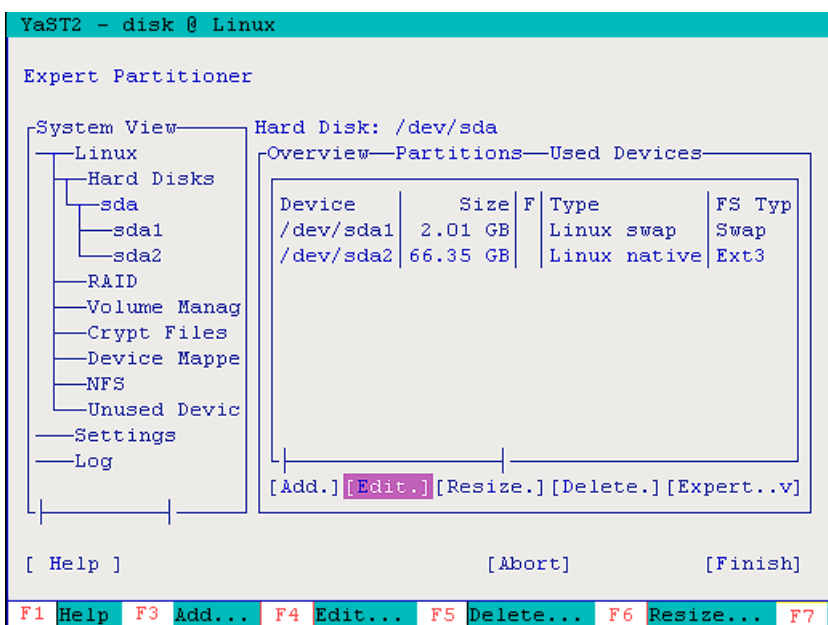

Figure 20-3
- b. Press Enter on **Hard Disks** → Select a partition → **Edit** as shown in Figure 20-3. It is necessary to repeat this step and the next step on every partition (/dev/sda1 and /dev/sda2 are shown here).